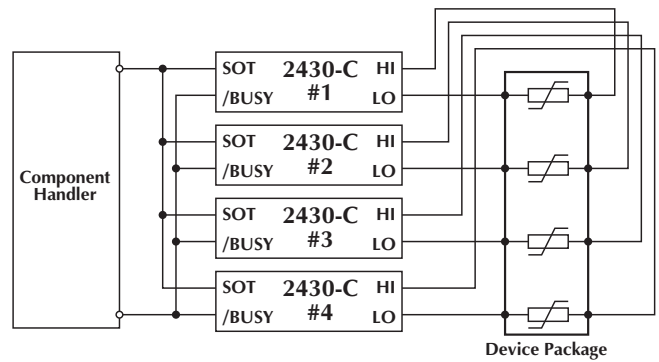

Figure 4. System diagram for testing a 4-device package.
**Figure 4** is a system very similar to the single element varistor test system. All four SourceMeter instruments are programmed the same and utilize the /BUSY line offered by the digital output. The /BUSY digital output line is held LO while the instrument is performing a test and will transition HI once testing is idled. Tying all four /BUSY lines of the instruments in parallel enables any one of the four 2430-C's to hold the input to the handler LO. One start-of-test (SOT) signal from the component handler initiates testing with the four SourceMeter instruments, and the four /BUSY lines tied together guarantee that all of the 2430-C's have completed testing before the handler moves to the next DUT. The SOT and /BUSY functionality is controlled from the rear panel through the digital I/O port (male DB-9 connector).